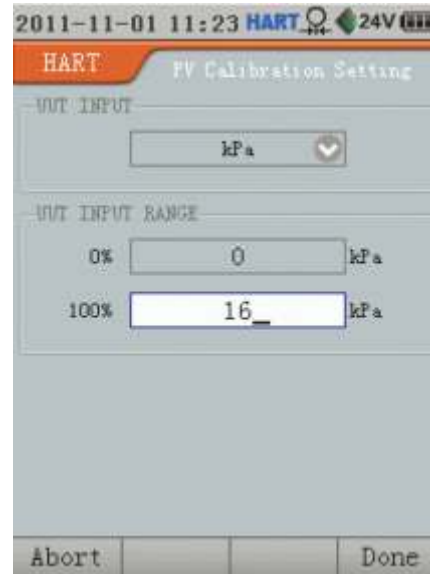

Figure 11.9 HART PV Calibration Setting
1. In the HART diagnostic and service interface, choose PV Calibration from the list, then press **Enter** or **Select** to show the PV Calibration Setting Interface (Figure 11.9).